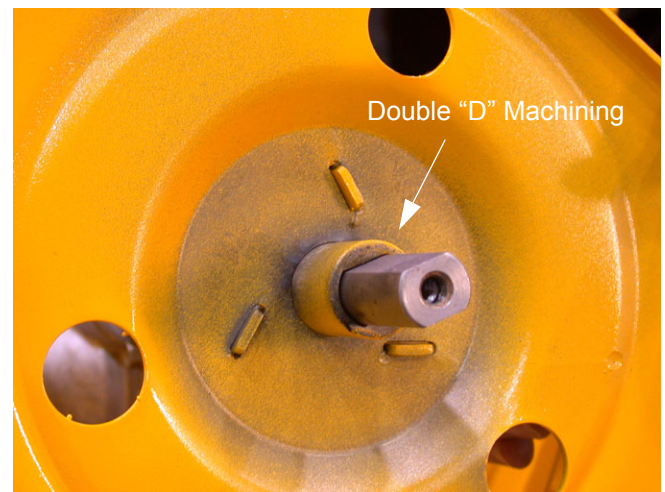

Figure 49
- The impeller worm shaft is machined to match a double D machining in the impeller. See Figure 49.